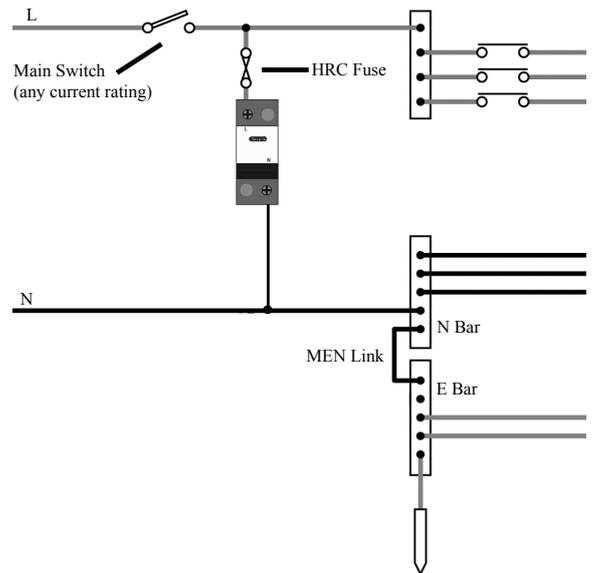
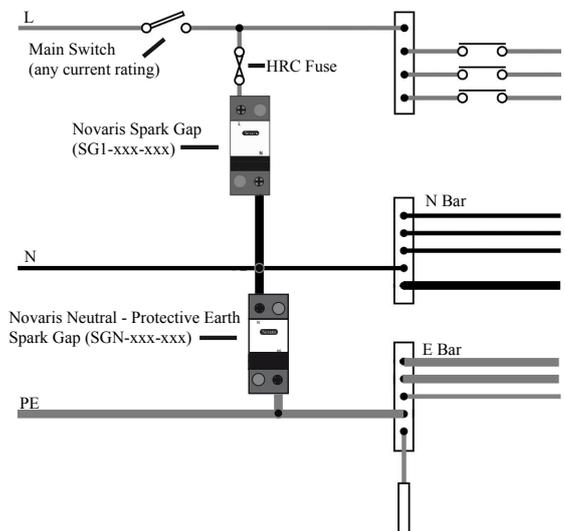

Figure 4: Typical 1 Phase Installation (MEN)
Figure 5: Typical 1 Phase Installation (non-MEN)
- 3.1 **Wiring:** Novaris spark gaps are ideal for point of entry protection. The SG3-50-275-N models are designed to be shunt connected between line and neutral (Figure 4). The SGN-xxx-xxx models are designed to be shunt connected between neutral and earth in non-MEN situations (Figure 5).